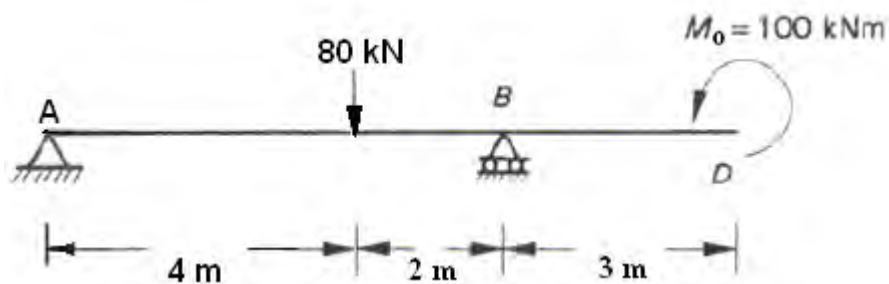

Figure 8
8. Compute the maximum deflections and support rotations in the beams of the following figure 8 using